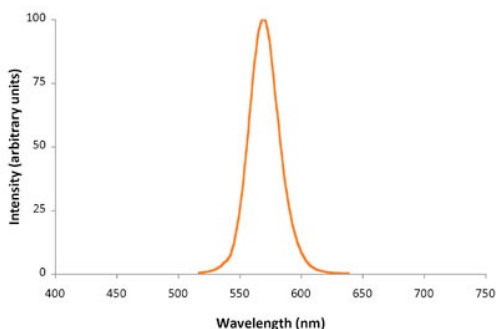
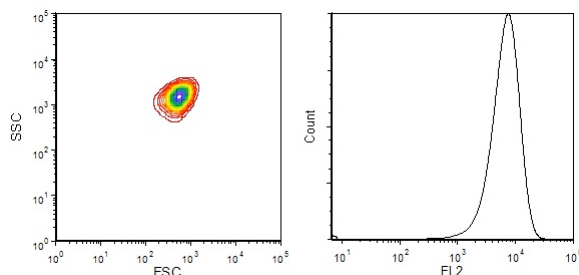

Figure 1. Emission spectrum of Zepto™ Mag Ultra Yellow Carboxyl Microspheres.
Figure 2. FSC-SSC plot and fluorescence histogram in the PE channel of Zepto™ Mag Ultra Yellow Carboxyl Microspheres on a flow cytometer.
The emission spectrum is illustrated in Figure 1. They are a suitable for a wide range of fluorescent assays such as flow cytometry-based assays. Their Forward Scatter (FSC) vs. Side Scatter (SSC) plot and fluorescence histogram in the PE channel (405nm, 488nm excitation; 575nm emission) on a typical flow cytometer are illustrated in Figure 2.
1. Gate on the single population of microspheres on FSC vs. SSC plot (refer to Figure 2)